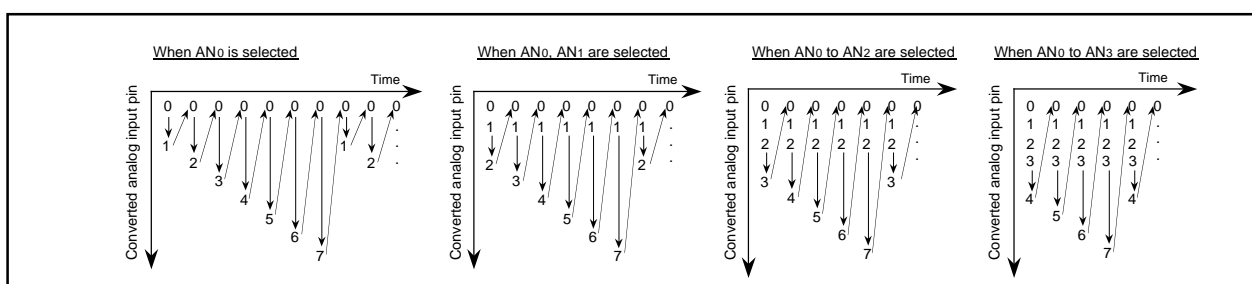
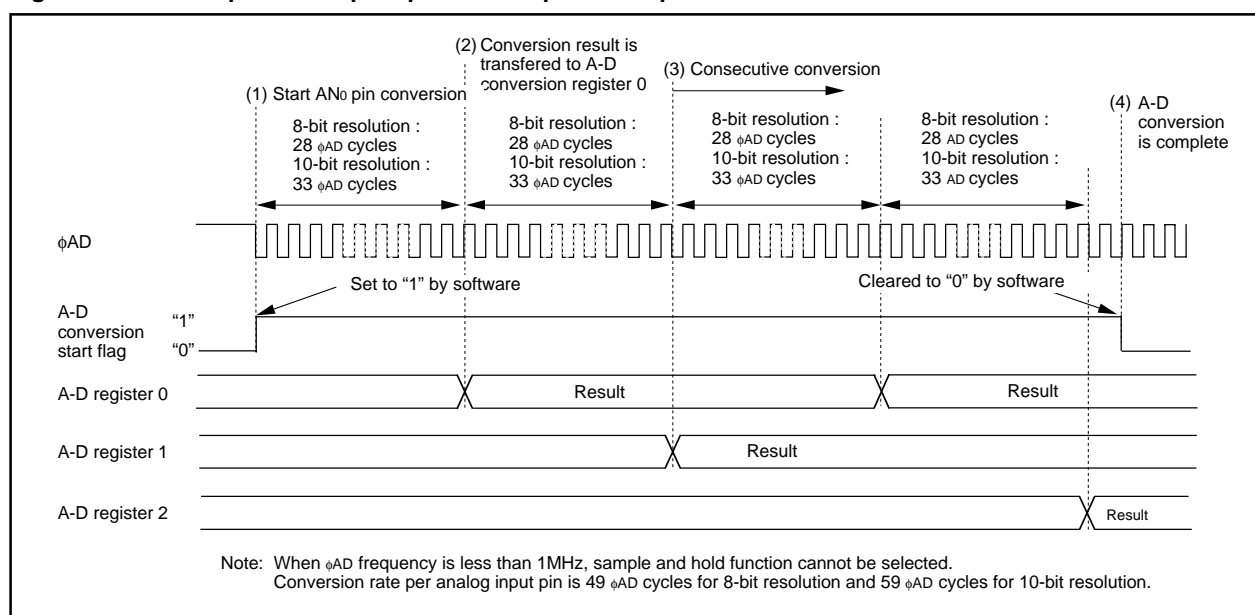
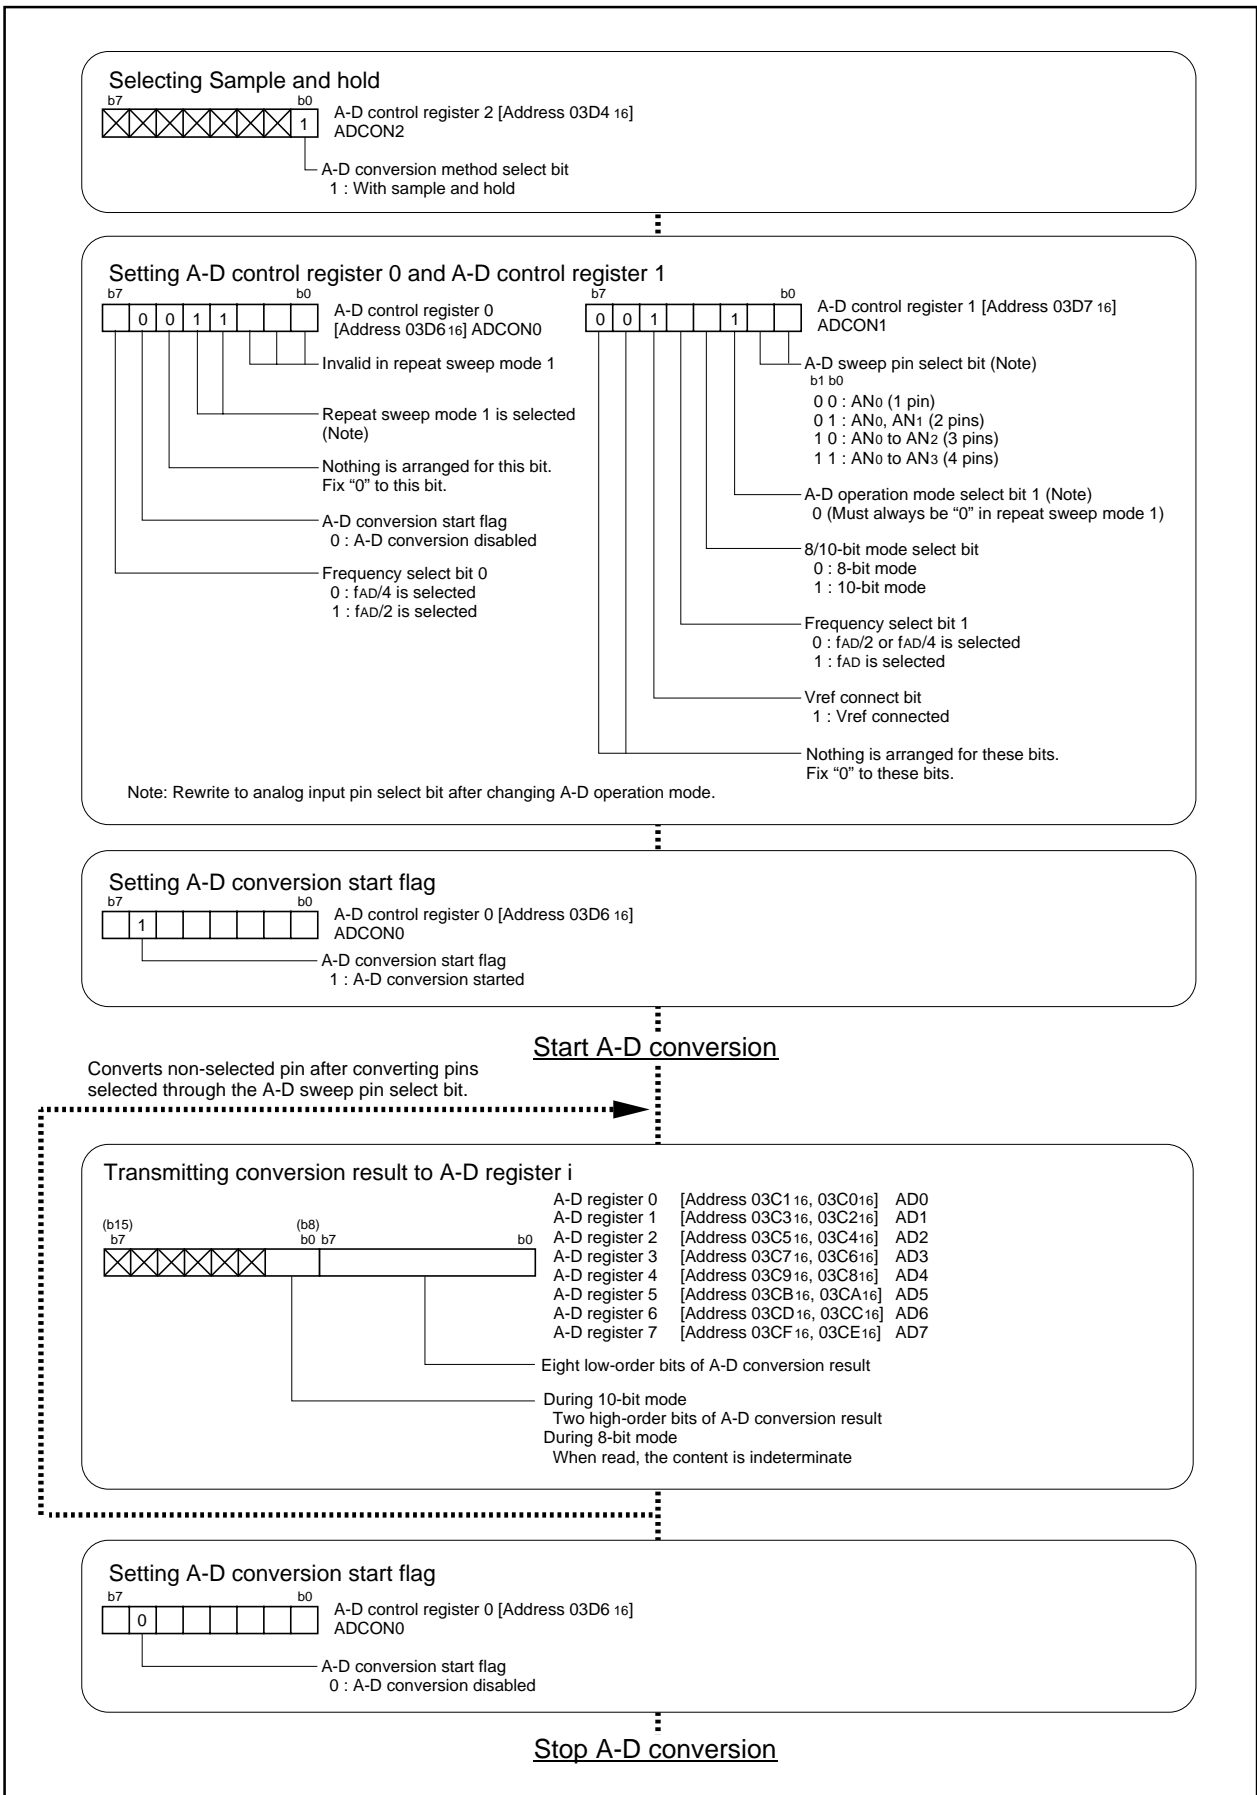

Figure 2.8.13. ANi pin's sweep sequence in repeat sweep mode 1
Figure 2.8.14. Operation timing of repeat sweep mode 1
Figure 2.8.15. Set-up procedure of repeat sweep mode 1
In repeat sweep mode 1, choose functions from those listed in Table 2.8.6. Operations of the circled items are described below. Figure 2.8.13 shows ANi pin's sweep sequence, Figure 2.8.14 shows timing chart, and Figure 2.8.15 shows the set-up procedure.
- (1) Setting the A-D conversion start flag to "1" causes the A-D converter to start the conversion on voltage input to the AN0 pin.
- (2) After the A-D conversion on voltage input to the AN0 pin is completed, the content of the successive comparison register (conversion result) is transmitted to A-D register 0.
- (3) Every time the A-D converter carries out A-D conversion on a selected analog input pin, the A-D converter carries out A-D conversion on only one unselected pin, and then the A-D converter carries out A-D conversion from the AN0 pin again. (See Figure 2.8.13.) The conversion result is transmitted to A-D register i every time conversion on a pin is completed. The A-D conversion interrupt request bit does not go to "1".
- (4) The A-D converter continues operating until software goes the A-D conversion start flag to "0".